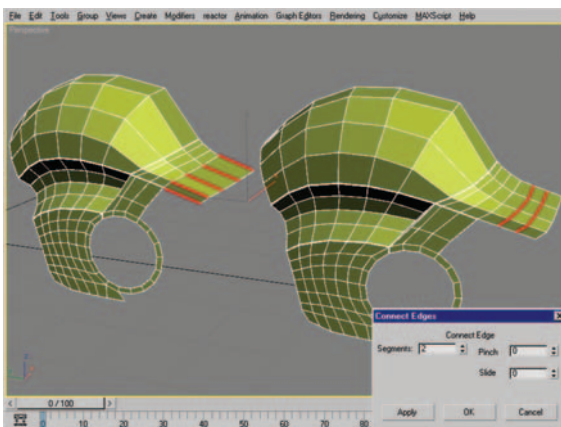

Figure 8.37 Edge-ring selection and resulting mesh after using Connect with the settings shown.
40. At the Edge subobject level, select the edge ring seen in Figure 8.37 (left) and use the Connect settings dialog box to create two new rows of edges as seen in Figure 8.37 (right).